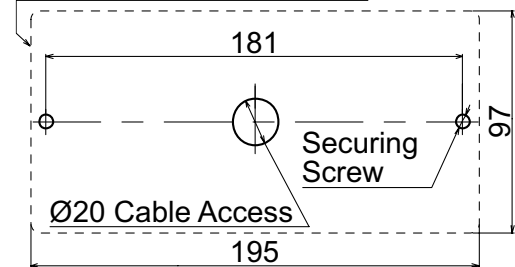

Fig.1
2. Mark and drill three holes, locating the cable access hole as shown (Fig.1).